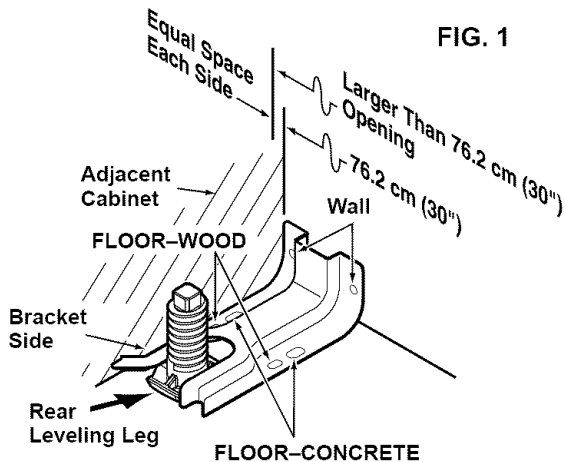

FIG. 1
**B** Place the bracket as shown in Fig. 1.
**A** Locate the centers of the 4 holes identified in Fig. 1 as Floor-Wood and Wall.
**B** Locate the center of the 4 holes identified in Fig. 1 as Floor-Concrete and Wall. Drill the recommended size holes in each.